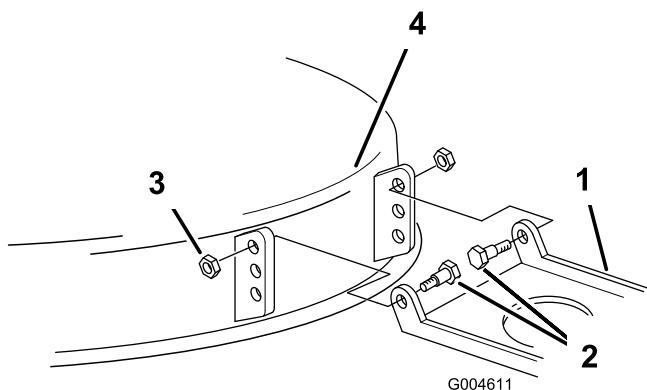

Figure 49
18. If you cannot get a $1/4$ to $5/8$ inch (6 to 16 mm) front slope by rotating the slope adjusting nut, move the mower pivot mount at the mower (Figure 49).
19. Remove the shoulder bolts and locknuts from the mower (Figure 49).
20. Lower the mower pivot a hole and install the shoulder bolts and locknuts (Figure 49).